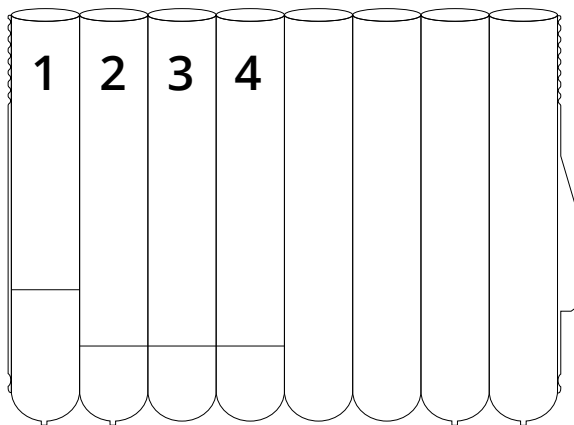

Figure 6: Side view on the filled CleanXtract LV cartridge.
8. Fill the cartridge(s) as mentioned in Table 9 and Figure 6.